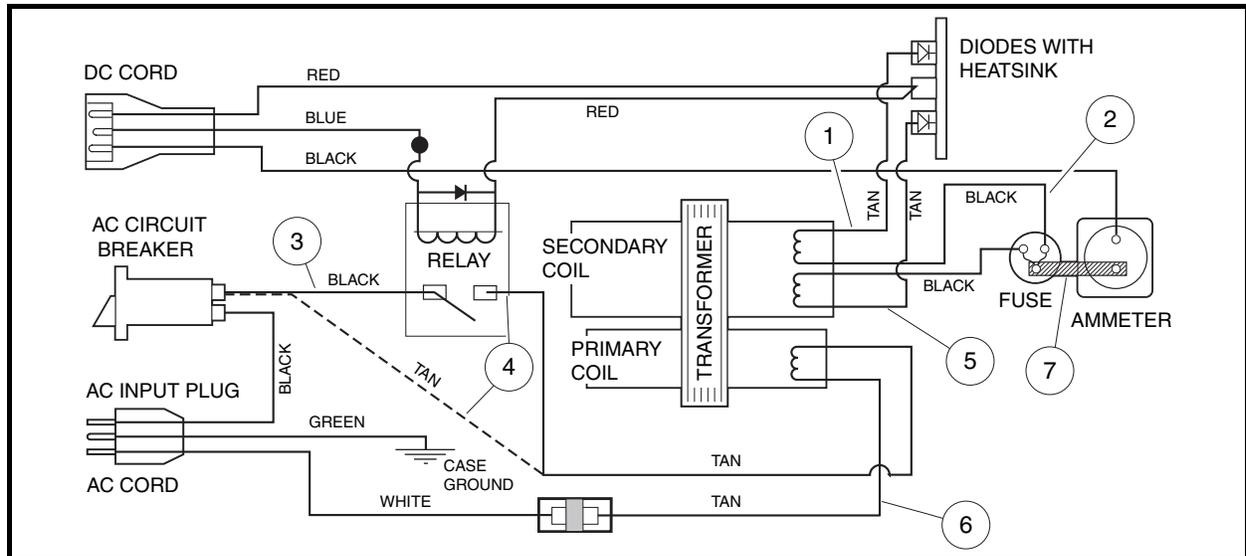

Figure 3-22 Transformer Test Wiring Diagram
- 5.2.1. To bypass the relay, remove the black wire (3) from the AC circuit breaker and disconnect the tan wire (4) from the relay. Connect the tan wire (4) to the AC circuit breaker (**Figure 3-22, Page 3-23**).
6. If the circuit is not complete, check the wiring of the AC cord, transformer primary coil wires, and internal AC circuit breaker (**Figure 3-22, Page 3-23**).
3. Disconnect transformer secondary coil wires (1 and 5) from the heatsink (**Figure 3-22, Page 3-23**).
- 4.1. To bypass the relay, remove the black wire (3) from the AC circuit breaker and disconnect the tan wire (4) from the relay. Connect the tan wire (4) to the AC circuit breaker (**Figure 3-22, Page 3-23**). **See following DANGER.**
9. Connect the AC cord to the wall outlet and monitor the multimeter for the secondary coil voltage. If measured voltage is approximately 85 volts AC or lower for the secondary coil, the transformer is shorted internally and must be replaced (**Figure 3-22, Page 3-23**).
The PowerDrive battery charger transformer has two sets of coils: a primary coil and a secondary coil (**Figure 3-22, Page 3-23**).
3. Disconnect terminals from transformer (tan) primary coil transformer wires (4 and 6) (**Figure 3-22, Page 3-23**).
3. Remove the transformer (tan) secondary coil wire (1) from the upper terminal of the heatsink (**Figure 3-22, Page 3-23**).
4. Remove the other transformer (tan) secondary coil wire (5) from the bottom terminal of the heatsink and place the continuity test clip on the ammeter buss bar (7) (**Figure 3-22, Page 3-23**). Test for continuity between the buss bar and each of the secondary coil wires (tan). The tester should indicate continuity between the buss bar and both of the secondary coil wires. If tester does not indicate continuity on both secondary coil wires, replace transformer. Ensure that the fuse is intact and not blown.
3. Remove black (3) and tan (4) wires from contact terminals of the relay (**Figure 3-22, Page 3-23**). Place continuity test probes on contact terminals of the relay. The tester should indicate no continuity. If tester indicates continuity, the relay contacts have failed closed and the relay must be replaced.